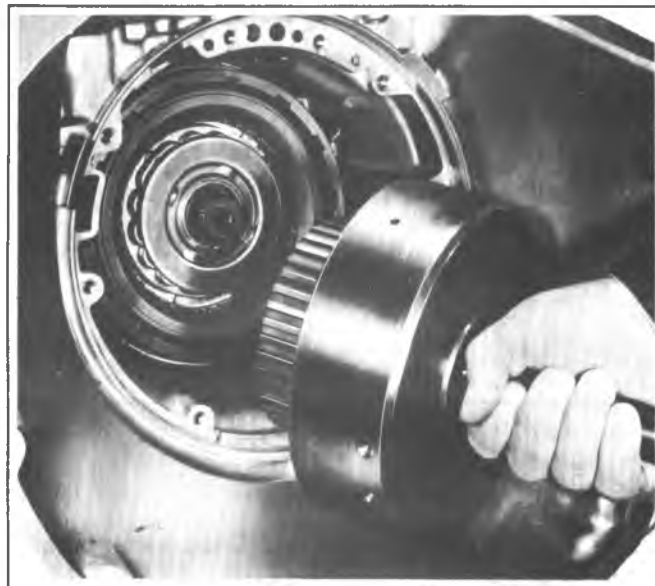

Fig. 7A-33C--Removing Forward Clutch Assembly and Turbine Shaft
3. Install two 3/8"-16 threaded slide hammer bolts, J-9539 with weights J-6585-01, into bolt holes in pump body and remove pump assembly from case (Fig. 7A-32C). (See illustration for location of threaded holes.)